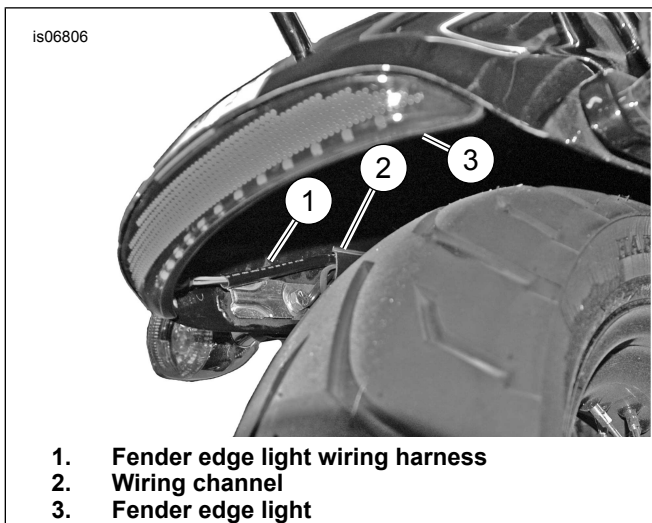

Figure 1. Fender Edge Light - Dyna Shown, Sportster Similar
4. See Figure 1. Test the fit of the fender edge light into the open end of the rear fender to verify that the fender edge light will fit properly without obstruction.
3. **For Dyna models:** See Figure 1. Route the light assembly wiring harness along the inner left side of the fender through the wiring channel (2) to the front of the fender. Then route the harness to pass through of the fender to the seat pan area and the interconnect harness. Use wire clips as necessary to secure the wire harness. **For Sportster models:** Route the light assembly wiring harness along the inner left side of the fender to the fender pass through hole. Secure the wire harness to the inner fender wall with wire clips from the kit. Then route the harness to pass through of the rear fender to the seat pan area and the interconnect harness.